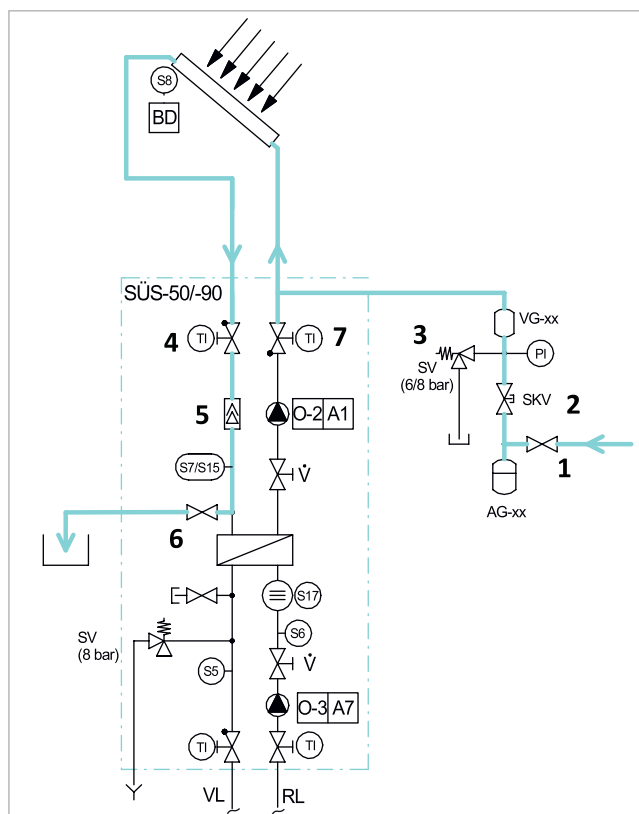

Fig. 12: Primary circuit: Flushing the collector field
Flushing the collector field (→ Fig. 12)
Testing the primary circuit under pressure (→ Fig. 12)
Start up the primary circuit (see → Fig. 12, p. 17).
- Once the solar circuit has been refilled, gas will be emitted during operation, which collects in the station deaerator → Fig. 12, p. 17 (7). The gas emissions decrease as the operation time increases. It is therefore important to bleed the deaerator and check the system pressure every day in the first few days after start-up and then at regular intervals, depending on the amount of air discharged.